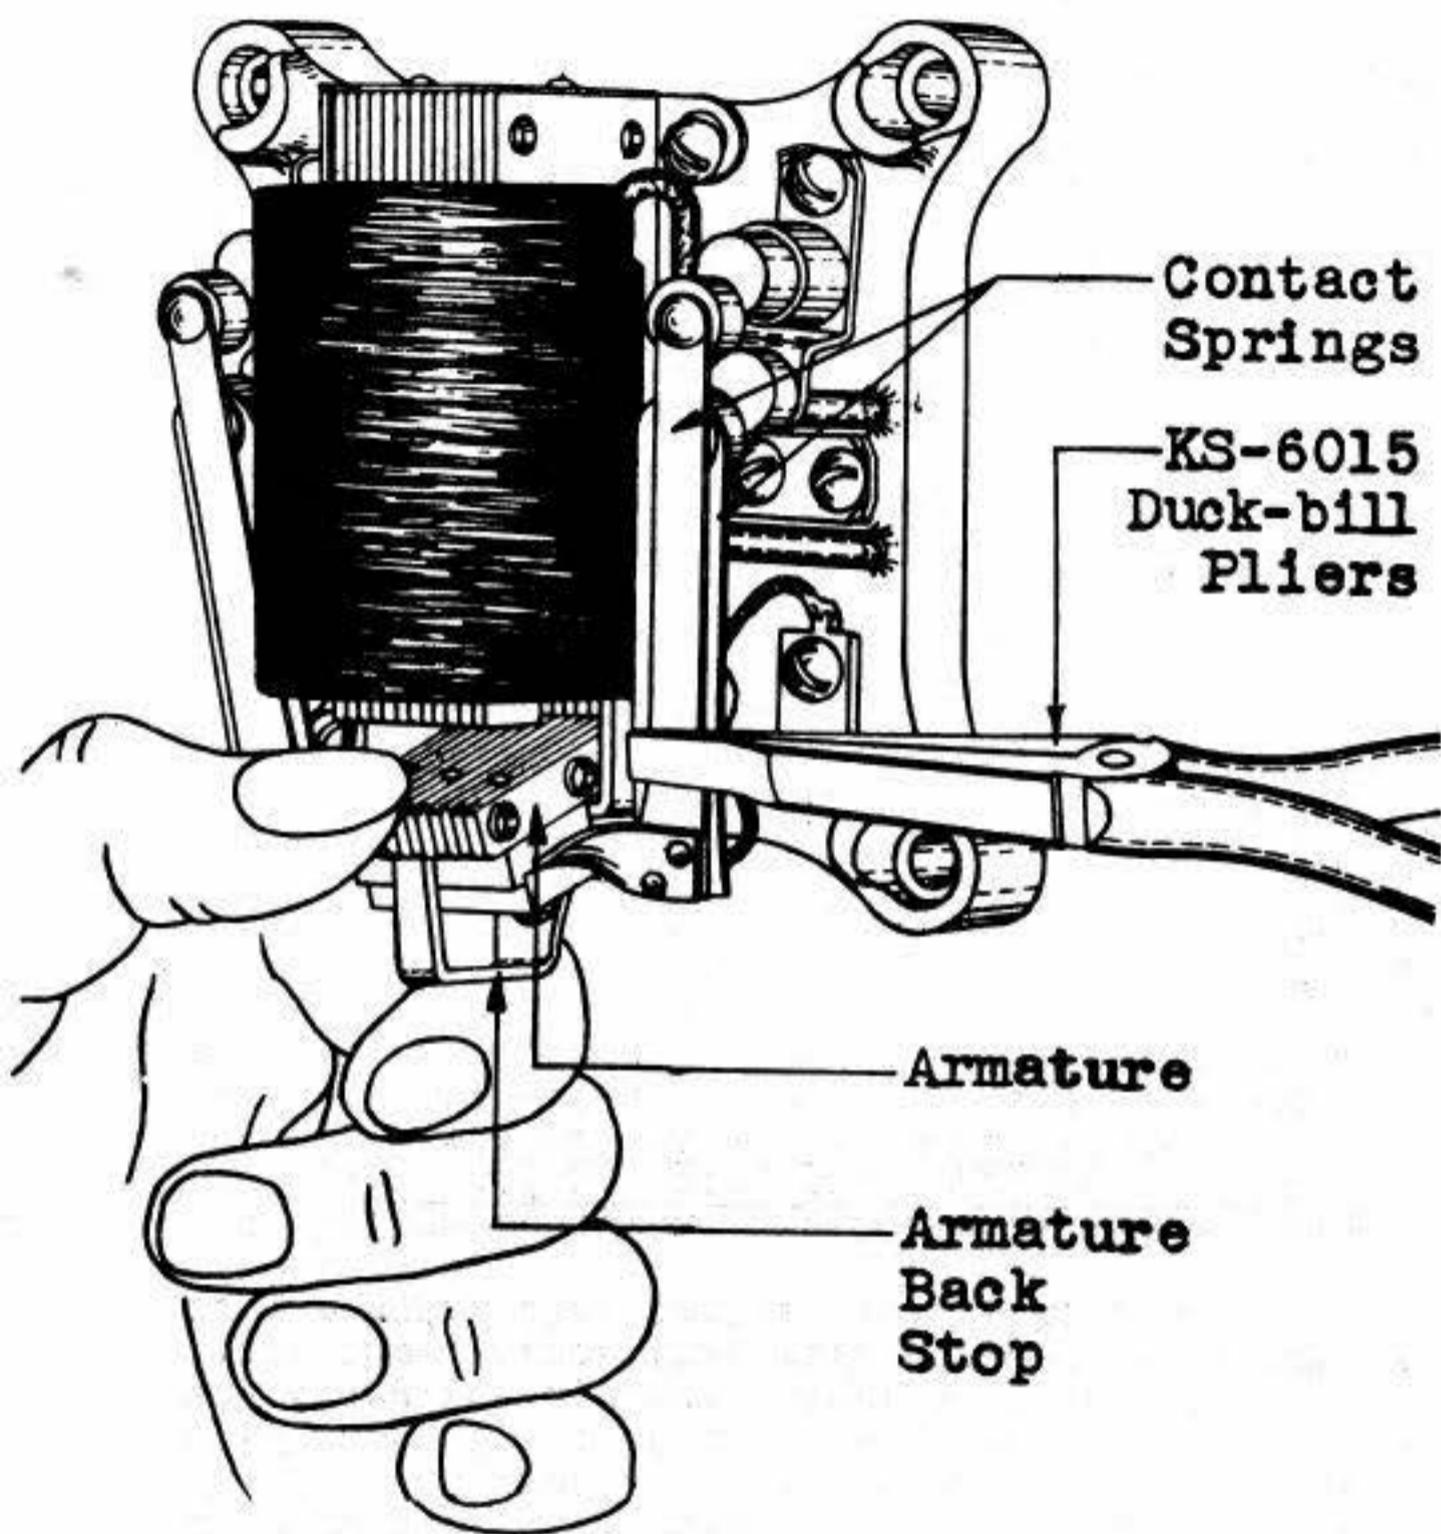

Fig. 3 - Method of Adjusting For Contact Pressure and Contact Sequence
If the contact pressure between contacts is not satisfactory hold the armature against the back stop and increase the tension of the spring by adjusting it towards the contact by applying the KS-6015 duck-bill pliers close to the riveted base of the spring, as shown in Fig. 3. In adjusting the springs, exercise care not to twist them, since this will prevent the contacts from resting flat against each other.
(3) Relays Equipped with Split Contact Springs. If a satisfactory adjustment cannot be obtained as outlined in (5), (6) and (7), adjust as outlined in (10).
(9) Contact Sequence. To adjust for contact sequence, proceed as follows except for those relays equipped with split contact springs, in which case adjust as outlined in (10). Adjust the contact springs at fault by increasing or decreasing the contact separation as required with the duck-bill pliers. To do this, place the pliers at a point about $1/4$ " from the point where the spring is riveted to the armature as shown in Fig. 3 and adjust the spring at this point as required. When a satisfactory adjustment cannot be obtained in this manner, distribute the tension as outlined in (6). After a satisfactory adjustment is obtained, check that the contact pressure requirement is met.
(10) If the relay is equipped with split contact springs and the contact on the long spring does not close at the same time as the contact on the short spring the trouble may be due to an unsatisfactory position of either the long or short spring. If either leg of the long spring is bowed or bent, straighten it with the duck-bill pliers as outlined in (6) and adjust the short spring as follows: Place the No. 363 spring adjuster on the short spring in back of the contact. This may be facilitated by lifting the short spring with a toothpick. Slide the